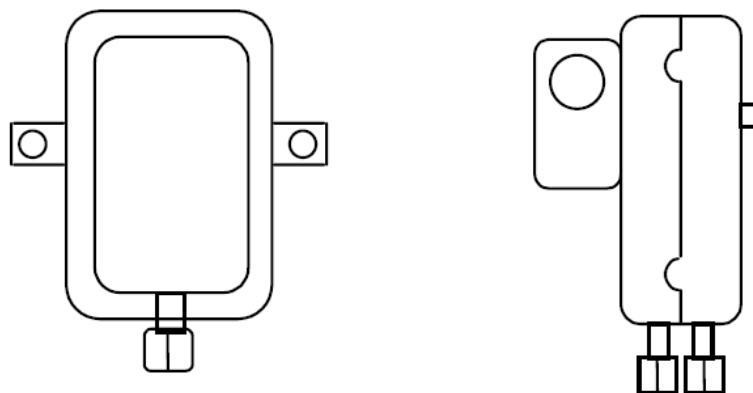

Figure 3
Select a location that is free from vibration. The NSA-AFS Series pressure switches must be mounted in any vertical plane in order to be able to reach the lowest specified operating setpoint. Avoid mounting with the sample line connections in the "up" position. Surface mount via the (2) 3/16" diameter holes in the integral mounting bracket. The mounting holes are 3 7/8" apart. See Figure 3.